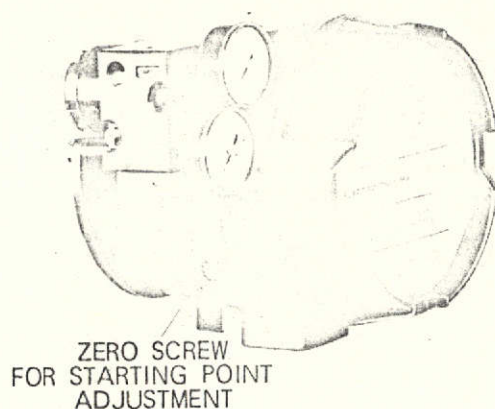

Figure 7. Location of starting point adjustment.
6. Check actuator starting point by applying the low value of DC input signal (4 mA with a 4 to 20 mA input signal) to the positioner. Adjust the zero screw as necessary (see Figure 7) to position the actuator at its starting point.